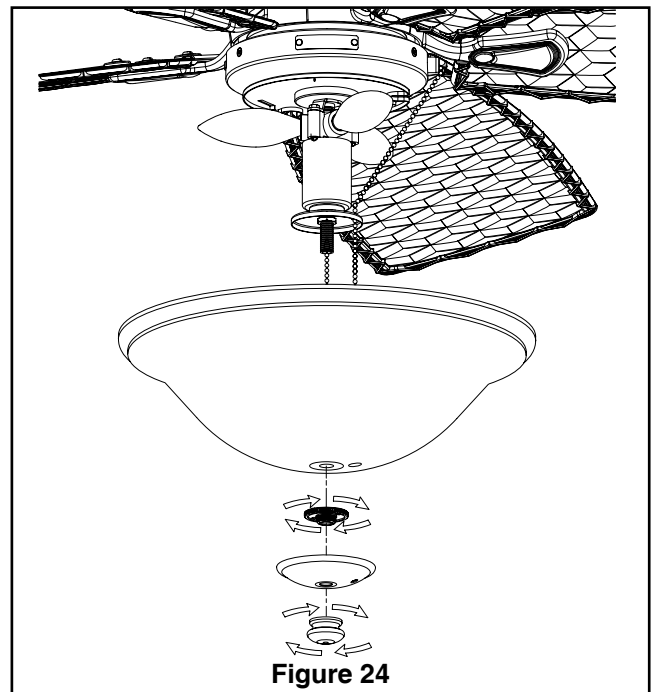

Figure 24
- ☐ 2. Secure glass bowl to light fitter using supplied nut. Next, install trim cover followed by the finial. Do not over tighten. (Figure 24)